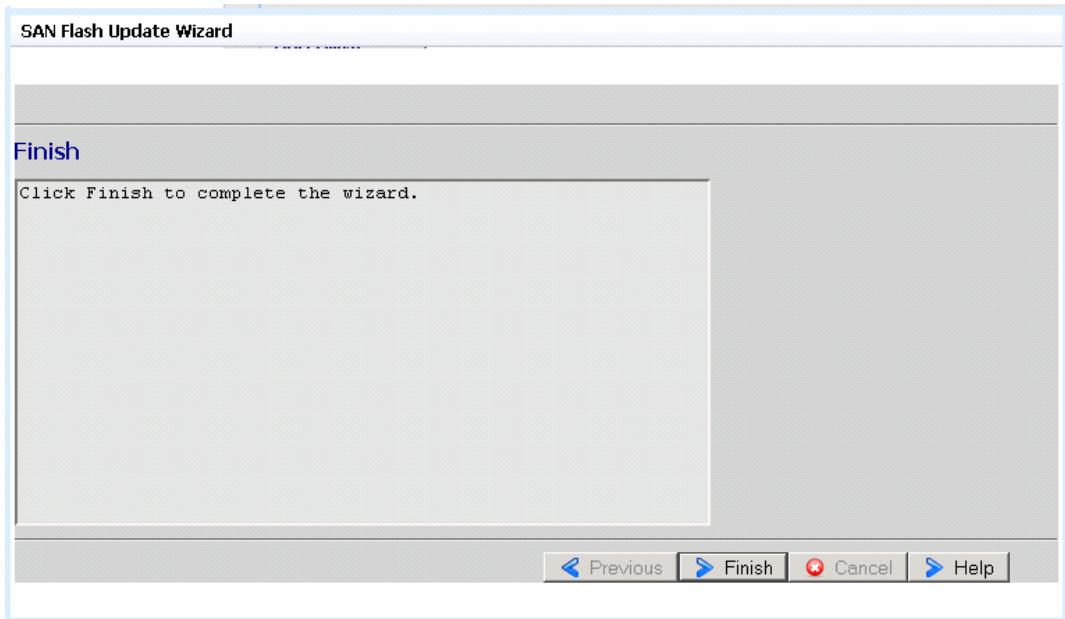

Figure 98 Finish
13. When the **Finish** window displays, click **Finish** to complete the flash update, as shown in Figure 98.